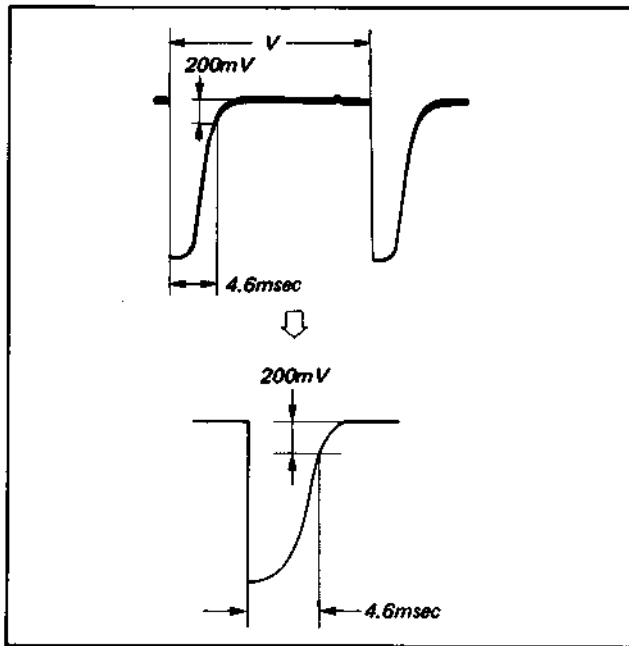

Fig. 2-21
- 2) Turn RV525 of VC-2 board so as to align the point where the voltage is 200mV lower than the full voltage value with the point of  $4.6 \pm 0.2\text{mS}$  as shown below. (Fig. 2-21)